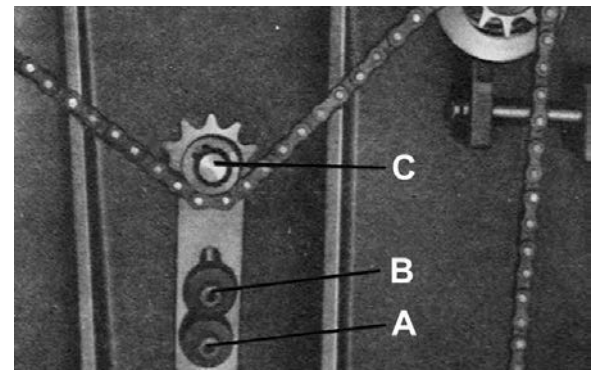
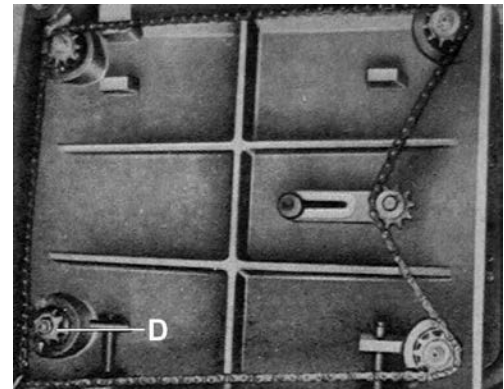

FIGURE 19
FIGURE 20
2. Tilt Planer on its side to expose the underside of the base as shown in Fig. 19.
3. Remove bolt (A) and loosen bolt (B) Fig.19, these two bolts will allow you to move the idler sprocket assembly (C) far enough to release tension on the chain as shown in Fig.20.
4. Remove chain from the sprocket from the corner which needs adjusting. Fig.20 shows the chain removed from the sprocket (D).
5. Turn sprocket (D) by hand to bring that corner into adjustment with the other three corners.